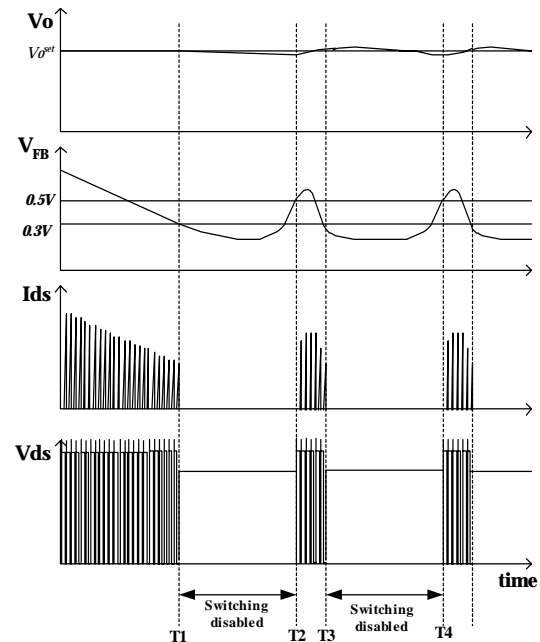

Figure 10. Waveforms of burst operation
6. Burst operation : In order to minimize power dissipation in standby mode, the FSCM0565R enters into burst mode operation at light load condition. As the load decreases, the feedback voltage decreases. As shown in Figure 10, the